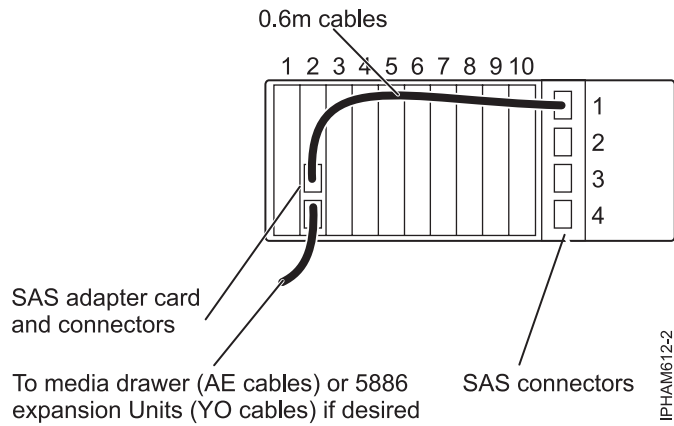

Figure 6. Physical cabling example: One hard-disk-drive partition with 18 disks, a single SAS adapter, and hard-disk-drive partitions switch position 1
<p>One hard-disk-drive partition with 18 disks and a single SAS adapter.</p>	<p>For related physical cabling, see Figure 6 on page 33.</p> <p>Operating system: AIX or Linux</p> <p>SAS adapter: One (FC 5901) - PCIe Dual - x4 SAS Adapter</p> <p>Hard-disk-drive partitions switch: position 1</p> <p>Cables: One (FC 3688) - SAS cable (AT) 0.6 meter.</p>